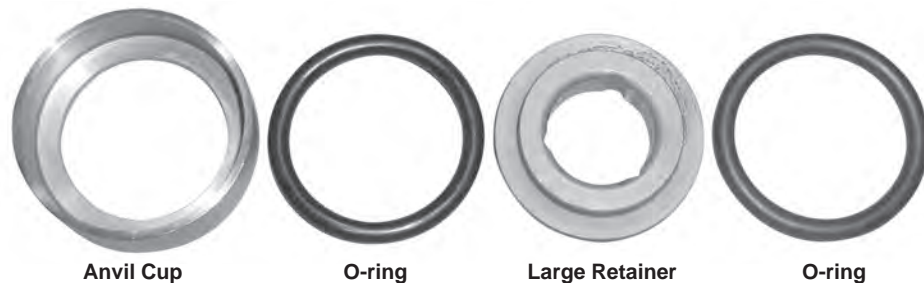

Fig. 16 - Insert O-ring into Anvil O-ring cup, then insert Large Retainer, followed by inserting the other O-ring.
Lubricate with Rhino® Pro Series Lubricant (p/n 300500) and assemble the large retainer and the two (2) large retainer o-ring seals in the order shown in **Fig. 16**